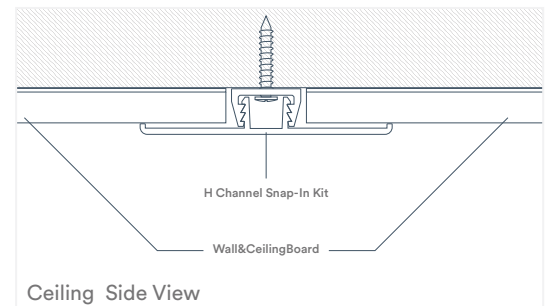

Fig. 9
4. If your ceiling is longer than your panel lengths, the panels must be joined in the middle using the H Channel Snap-In Kit (Fig. 9). Refer to the Joining Panels portion of the Trim Applications section of this document for details.